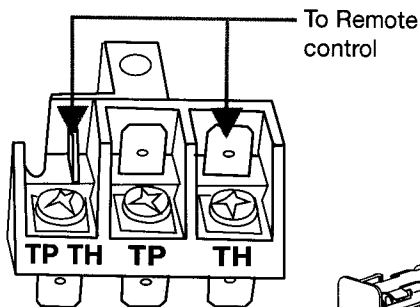

Figure 1
2. Connect the wires to the TH and TPTH terminals of the Millivolt valve. See Figure 1.